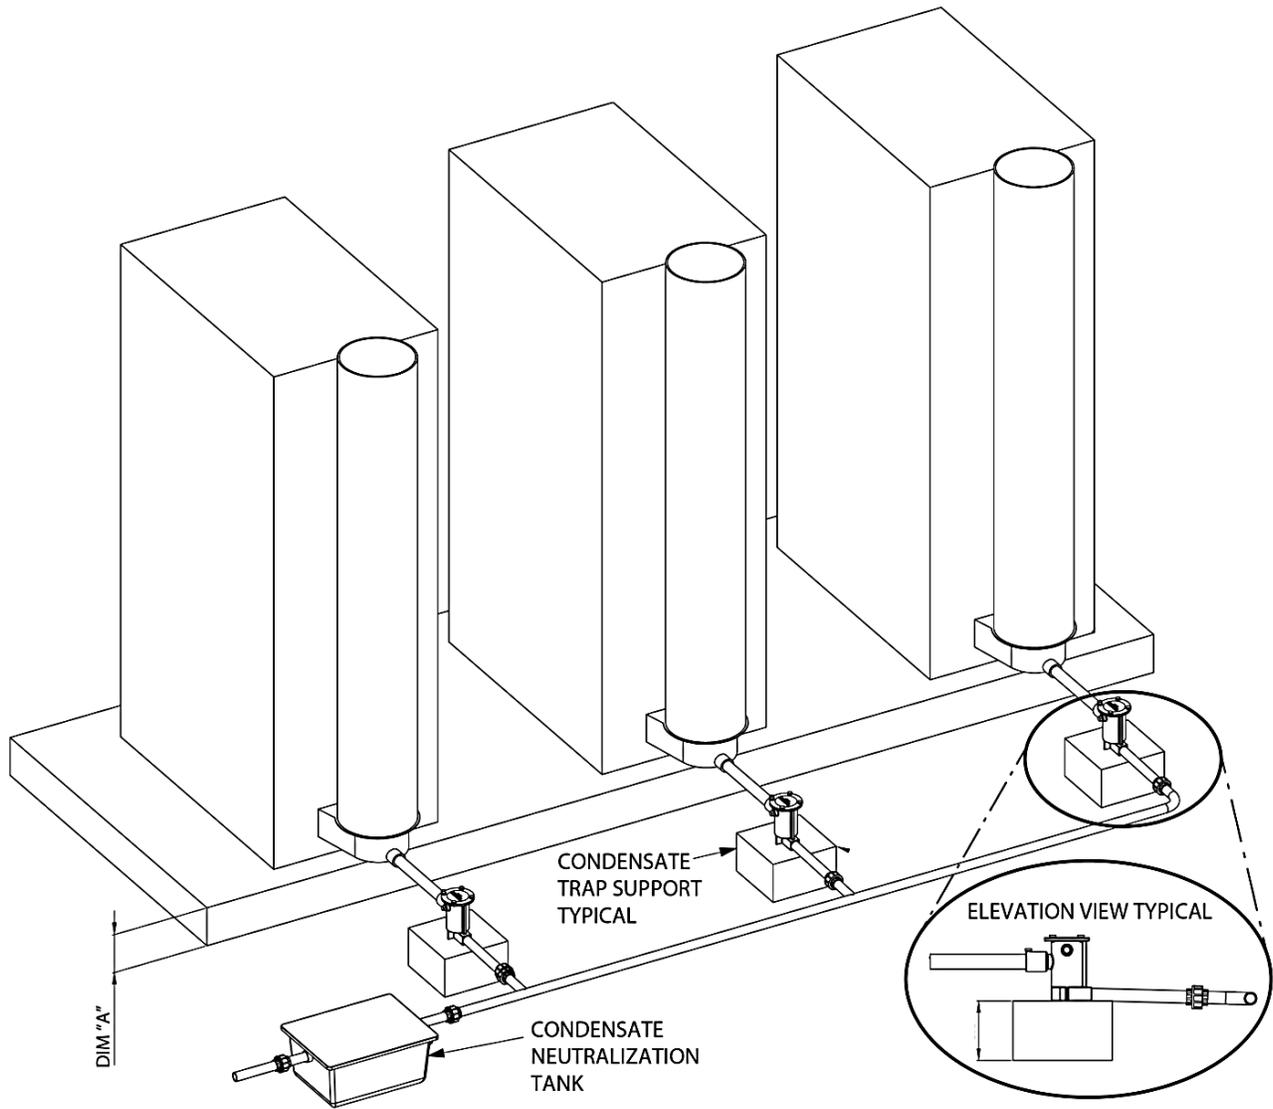

Figure 3: Elevated Multiple Boiler Units with Tank (P/N 89030)
- b) Elevating the AERCO boiler/water heater(s) and the AERCO condensate trap(s) (see Figure 3).
Use Figure 3 and the above table for installations where a pit cannot be constructed for the condensate neutralizer tank. For models not shown in this table: the condensate neutralizer can be installed on the floor using a 4 inch pad.
| 11/13/2019 | Rev F: DIR 19-71 – Updated overall format; Updated Figure 3. | Linley Thobourne |